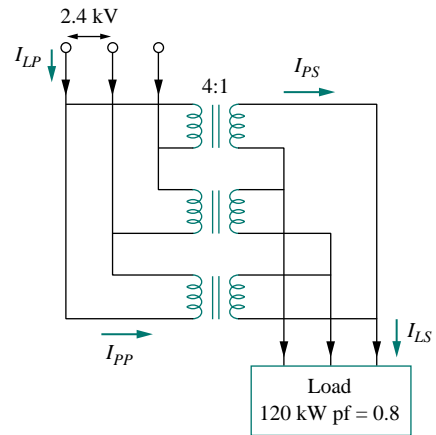

Figure 13.120 For Prob. 13.55.
- 13.55** Consider the three-phase transformer shown in Fig. 13.120. The primary is fed by a three-phase source with line voltage of 2.4 kV rms, while the secondary supplies a three-phase 120-kW balanced load at pf of 0.8. Determine: